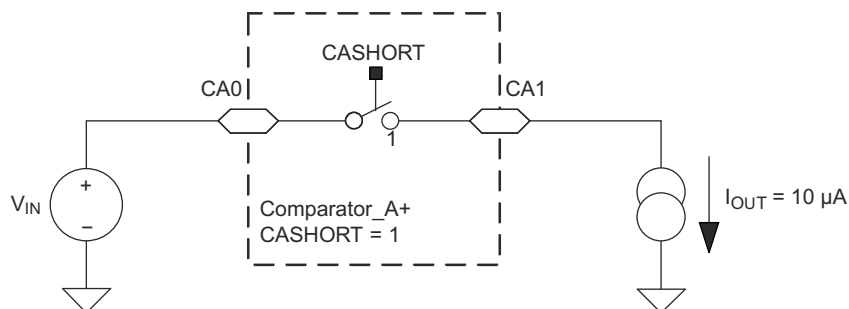
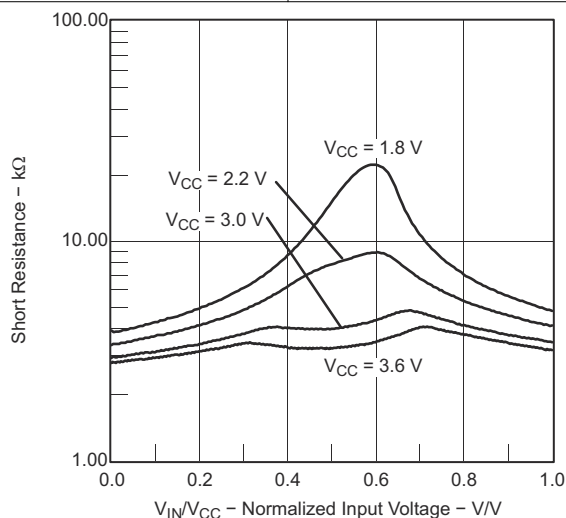

图 8-34. Comparator_A+ Short Resistance Test Condition
图 8-37. Short Resistance vs V_{IN}/V_{CC}
(1) The leakage current for the Comparator_A+ terminals is identical to I_{lkg(Px,y)} specification.
(2) Also see 图 8-34 and 图 8-37.
(3) The input offset voltage can be cancelled by using the CAEX bit to invert the Comparator_A+ inputs on successive measurements. The two successive measurements are then summed together.
(4) The response time is measured at P2.2/CAOUT/TA0/CA4 with an input voltage step and with Comparator_A+ already enabled (CAON = 1). If CAON is set at the same time, a settling time of up to 300 ns is added to the response time.